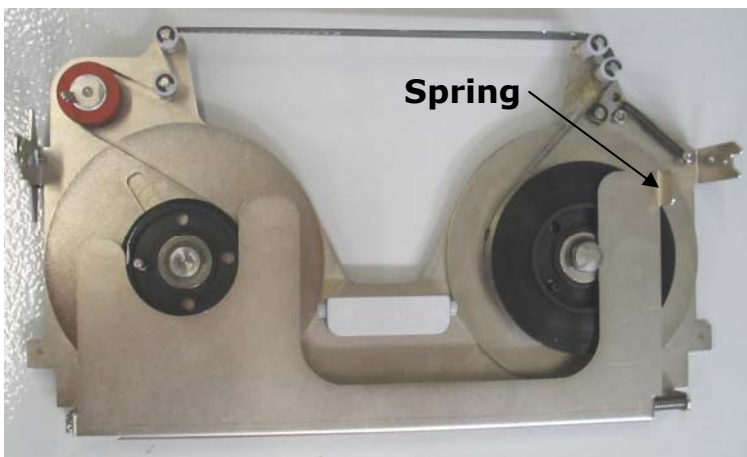
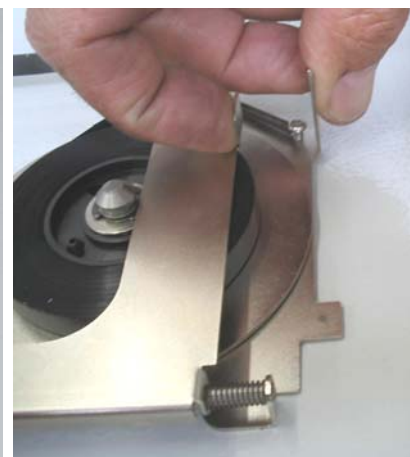

fig. 5
fig. 6
Then you have to put the cartridge, either upper or lower, on a plain surface (**fig. 5**) and pull the spring that releases the ribbon cover (**fig. 6**).
Then you can extract the old carton core (**fig. 5**) and insert in the same position the new ribbon by pulling the related disk spring (**fig. 6**). Be careful that the ribbon unwinds over the core.
**fig. 5****fig. 6**